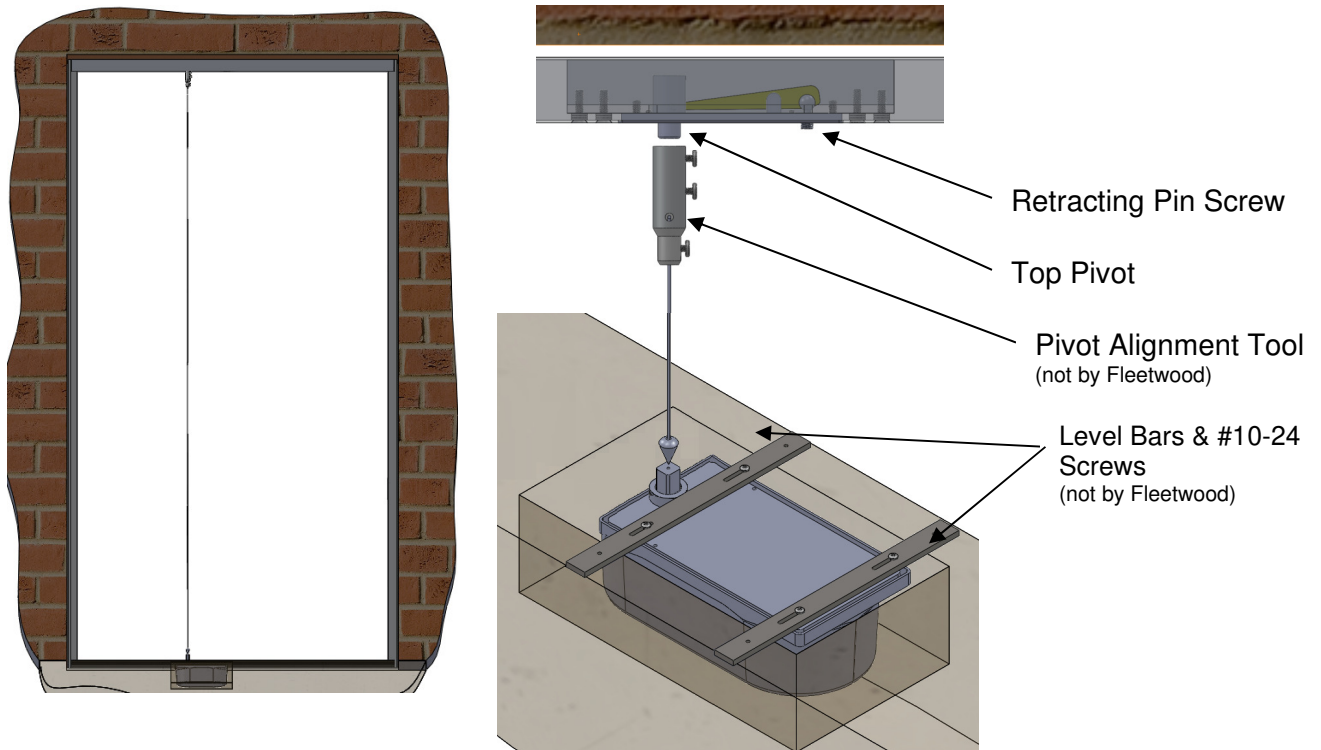

Figure 9:
- Use a plumb line to center top pivot pin with center of closer spindle (Figure 9).